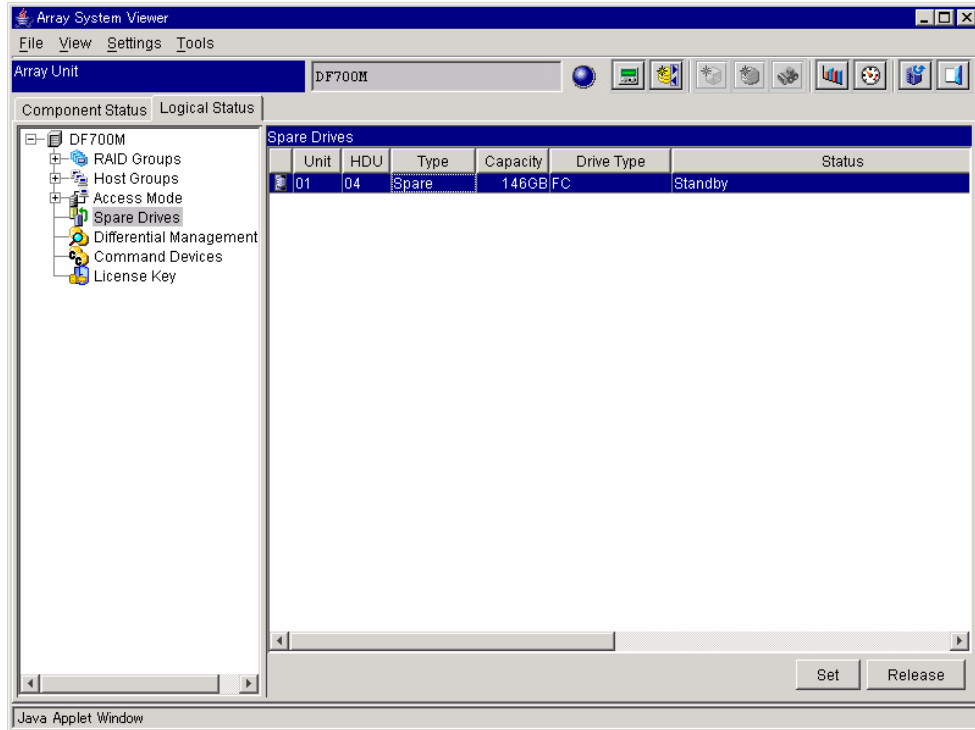

Figure 6.8 Array System Viewer – Spare Drives
2. Click the **Spare Drives** icon. See Figure 6.8.